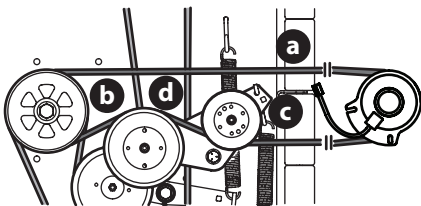

Figure 58
- Remove the PTO belt (a) from the deck as instructed in the Deck Removal section then remove it from around the PTO clutch (Figure 58).
- Route the PTO belt (a) (Figure 58).
- After routing the belt around the PTO pulley (b), use a 1/2" drive in the idler pulley bracket (c) and turn towards the right of the mower to finish routing the belt around the idler pulley (d) (Figure 58).